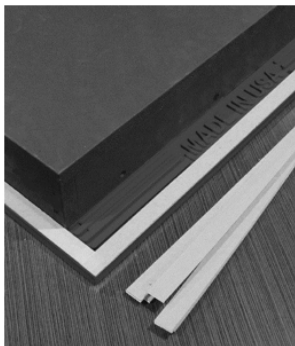

Figure 5
- If necessary, attach the provided self-adhesive shims to the rear of the speaker. Place the shims over the screw holes and leave no gaps (See Figure 5).